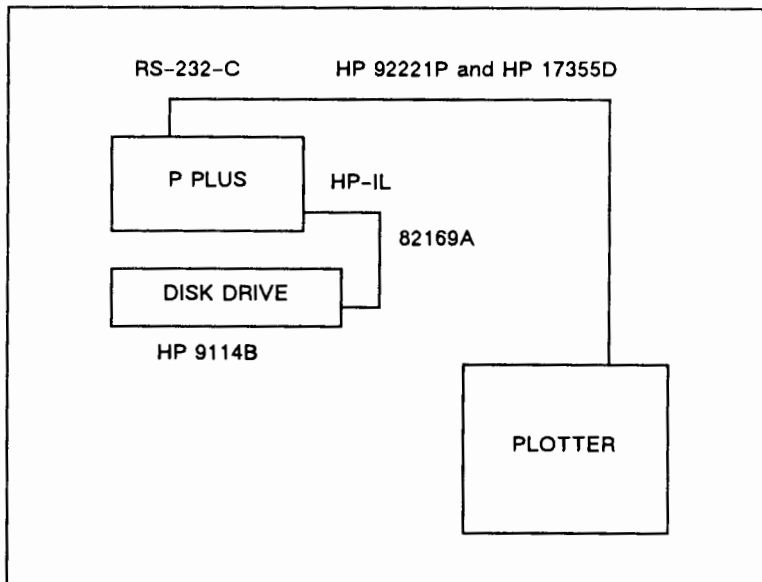

Figure 5-6. Demo Plot Setup
d. Connect the Portable PLUS as shown in Figure 5-6.